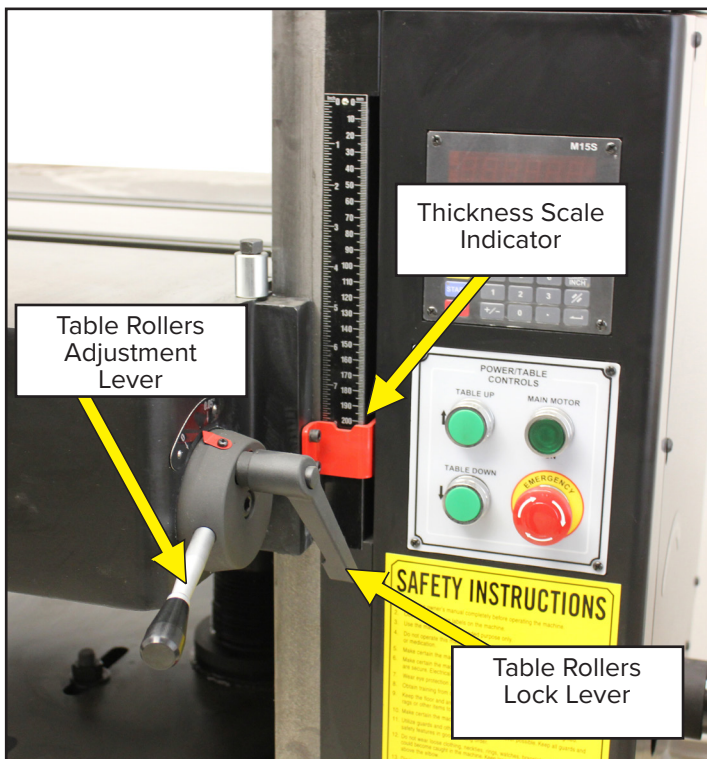

Figure 9: Control Panel.
2. Adjust the red pointer next to the switch panel see figure 9 by loosening the screw that holds it in place and move it to match your measurements.
To Adjust the table rollers' height, loosen the lock lever that locks handle C in figure 9 and turn the hand lever C to move the table rollers up or down, then tighten the lock lever to secure your position.